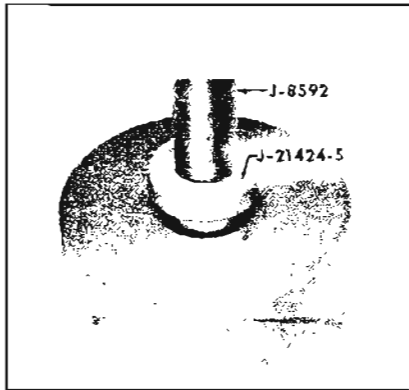

Figure 5-226
1. Install J-21424-5 in front of forward clutch drum. Using Drive Handle J-8092 press bushing into bore until tool J-21424-5 bottoms on hub. See Figure 5-226.